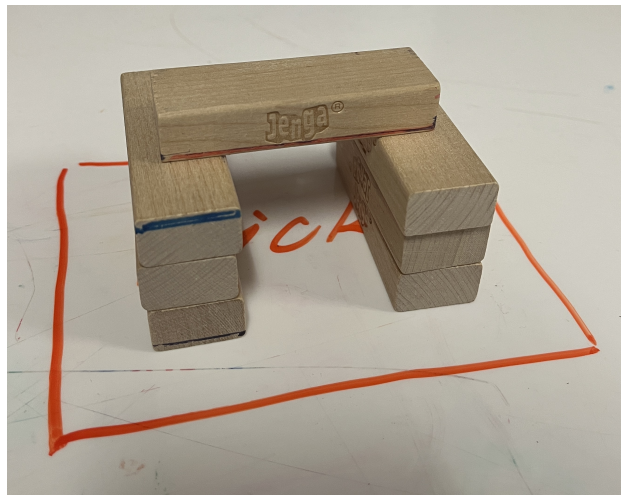

Figure 2: Jenga stack
1. Stack the Jenga blocks in the orange “Pick” area as shown in Fig. 2.